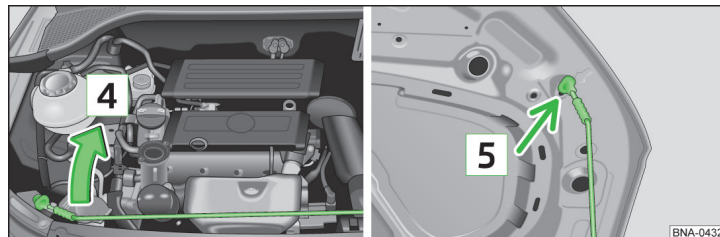

Fig. 76 Securing the bonnet
- Remove the bonnet support in the direction of arrow **4** from the holder » fig. 76.